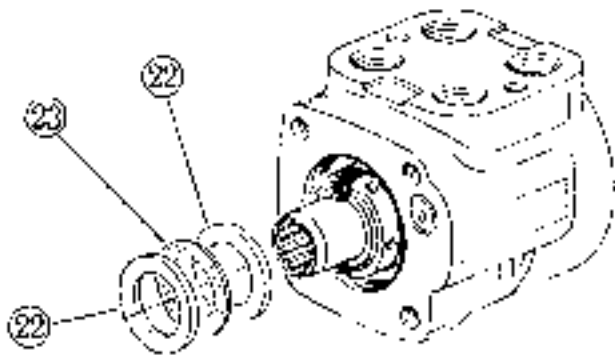

Fig. 10
10. Remove oil seal (26) from bushing (25).
11. Remove dust seal (27) from bushing (25) using a screwdriver, taking care not to damage bushing (25).
12. Remove bearing races (28) and bearing (29). (Fig. 10)
17. Install O-ring ⑲ on housing ⑩. (Fig. 10)
18. Place plate ⑦ on housing ⑩, and align the bolt holes with the threaded holes.